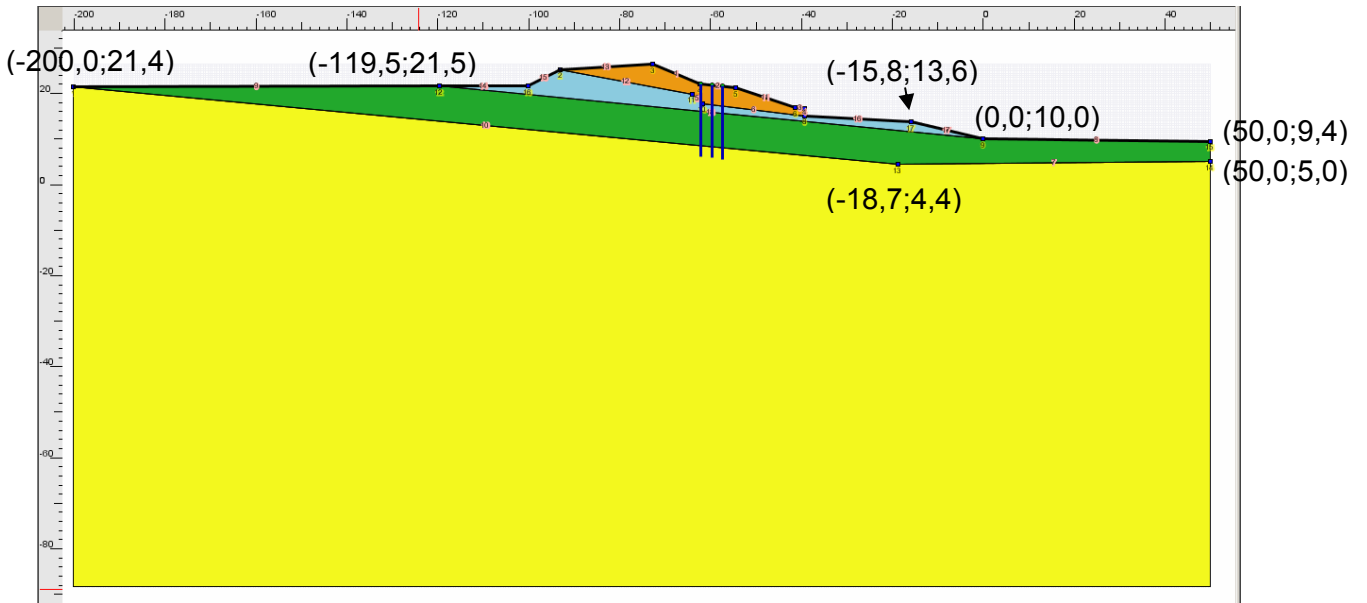

Figure 80: model geometry
- To assign these soil properties to soil clusters, proceed for example with drag & drop from the left list onto soil clusters (refer to Figure 80 for the position of the layers).